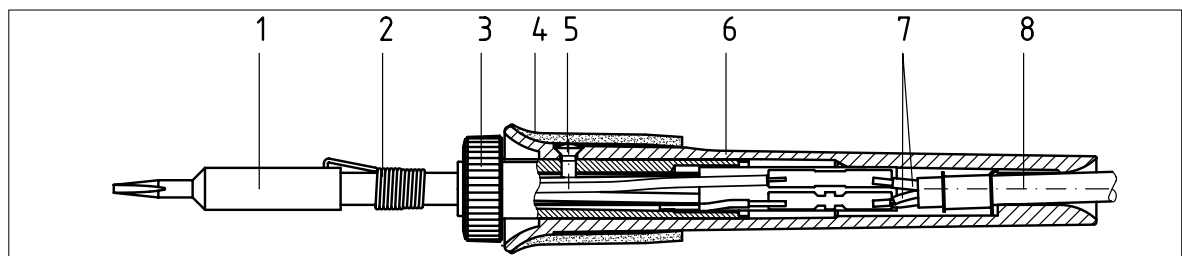

Figure 22
- Pull off cooled tip (pos. 1/fig. 22) and tip mount (pos. 2/fig. 22) from the heating element. Pull off handle pad (pos. 4/fig. 22).
- Unscrew handle mounting screw (pos. 5/fig. 22).
- Pull off handle (pos. 6/fig. 22).
- Disconnect soldering connection between the heating element (pos. 3/fig. 22) and the connecting wire (pos. 7/fig. 22).
- Change the heating element (pos. 3/fig. 22) or connecting lead (pos. 8/fig. 22).